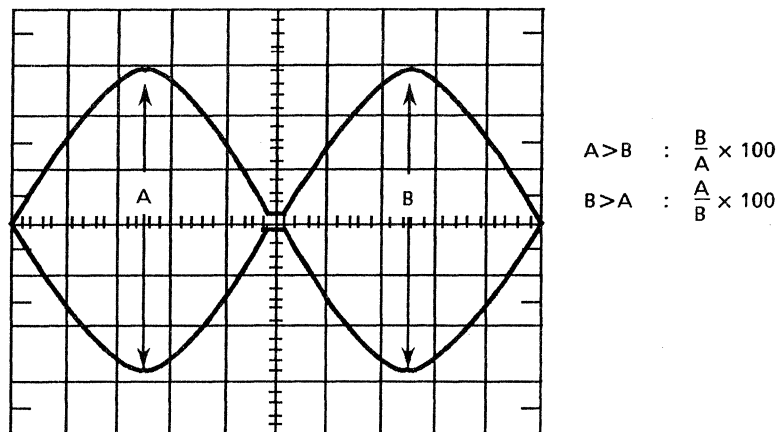

Fig. 9.2 Radial Alignment Waveforms (CATS EYE)
- (2) Step to the track specified in the Radial alignment column of Table 8.1.
- (3) Leave the oscilloscope in the same condition as mentioned in section 9.3.
- (4) Check the output waveforms for sides 0 and 1. They should appear as in Fig. 9.2.
- (5) The two waveforms should appear in the amplitude ratio in the R/A $\pm 55\%$ or more.
- (6) If the specified ratio is not satisfied, loosen the two mounting screws for the stepper motor.
- (7) Move the stepper motor along the base by hand until the two waveforms assume approximately the same amplitude, and retighten the mounting screws. (See Fig. 9.2.)
- (8) Step the head outward (track 0) and inward (track 40 or 79), and confirm that the adjustment has been completed.
- (9) After the radial adjustment, be sure to confirm track 00 sensor adjustment 9.9